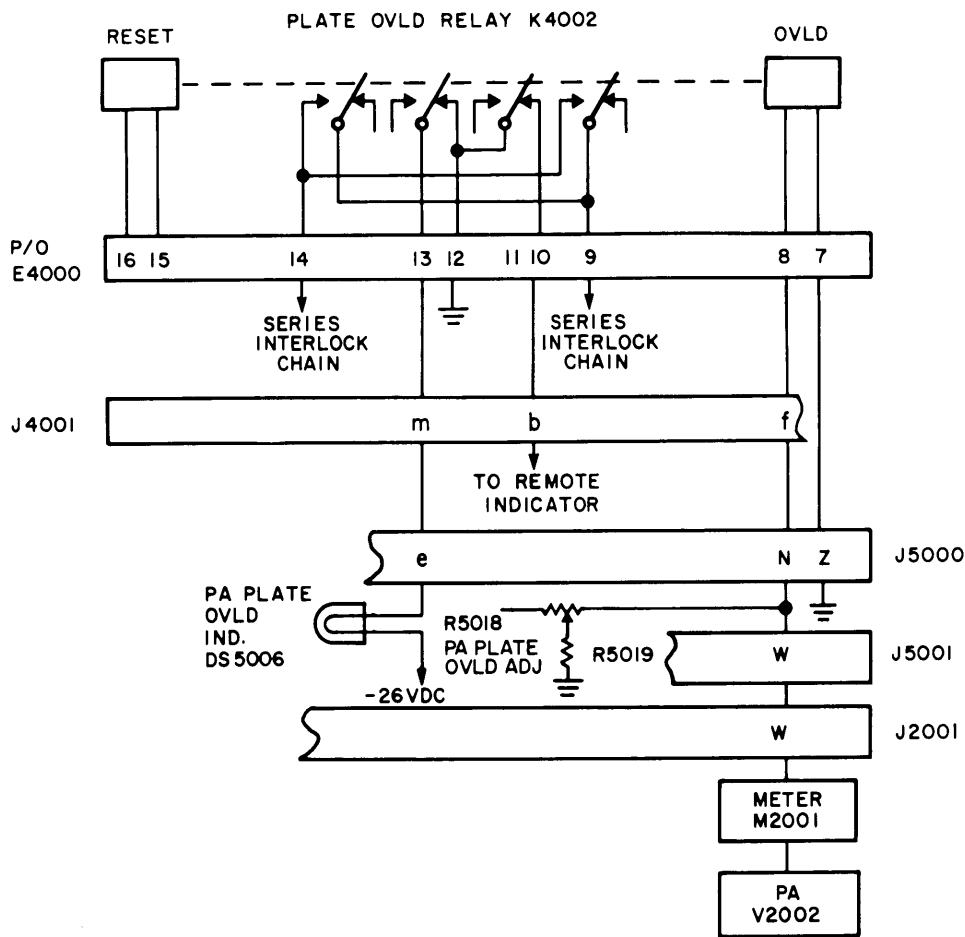

Figure 4-3. Plate Overload Relay K4002
b. PA PLATE OVERLOAD RELAY (refer to figure 4-3) - The PA plate overload relay K4002 is a protective device for the PA tube V2002. When the PA cathode current in power amplifier V2002 exceeds its normal operating limit, relay K4002 switches to its overload state, and removes the high voltage in the PALA-2.5K.